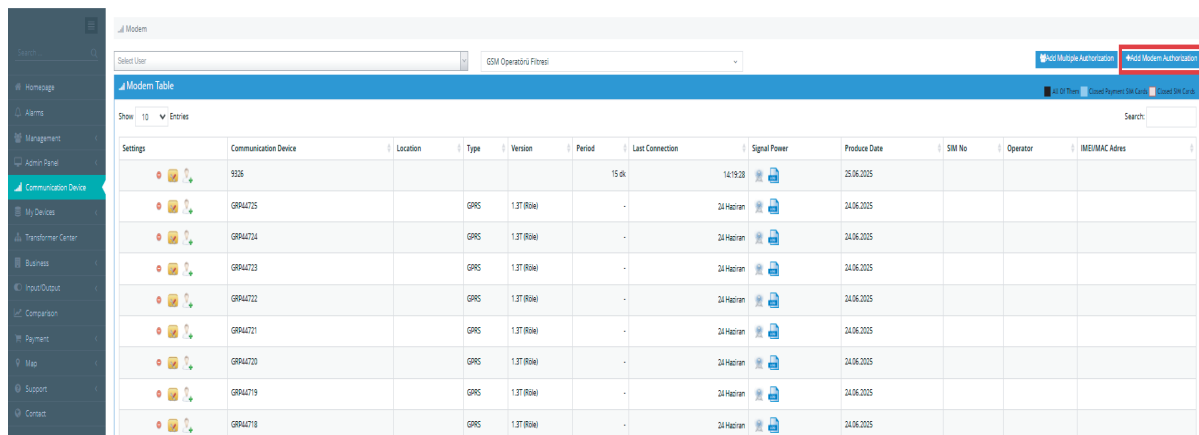

Figure 5.4
6. On the page that opens, click the "Add Modem Authorization" button. (Figure 5.4)